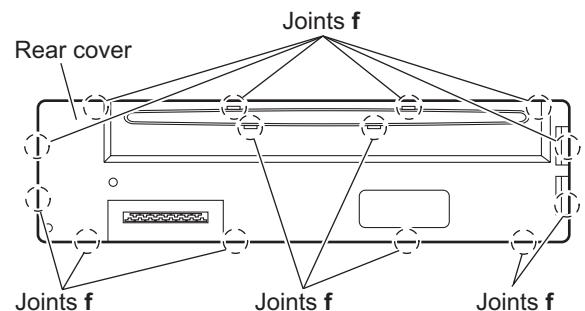

Fig.9
- (2) Release the joints **f** and remove the rear cover. (See Fig.9.)